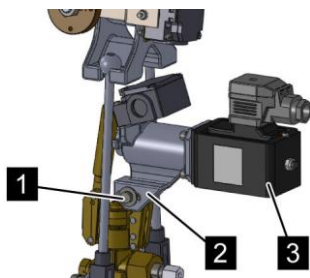

Fig. 147: Removing the release device
6. ➔ Unscrew the hex bolt (Fig. 147/1) on the holder (Fig. 147/2) of the EM release device. Remove hex bolt, washer and hex nut and keep them in a safe place.
7. ➔ Take the release device (Fig. 147/3) off of the valve.